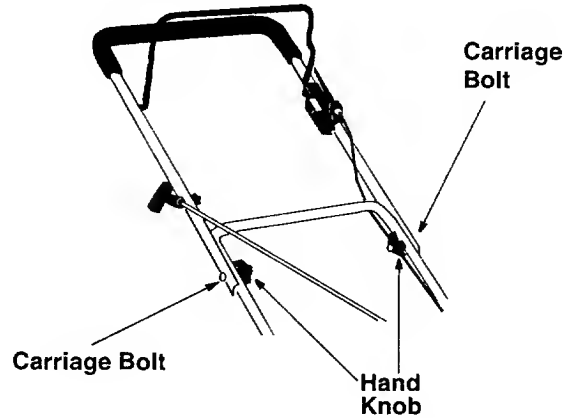

Figure 3
- Pull up and back on the upper handle to raise the handle into the operating position. Make certain the lower handle is seated securely into the handle mounting brackets. Tighten the hand knobs on each side of the handle (carriage bolts must be seated properly into the handle). See Figure 3.